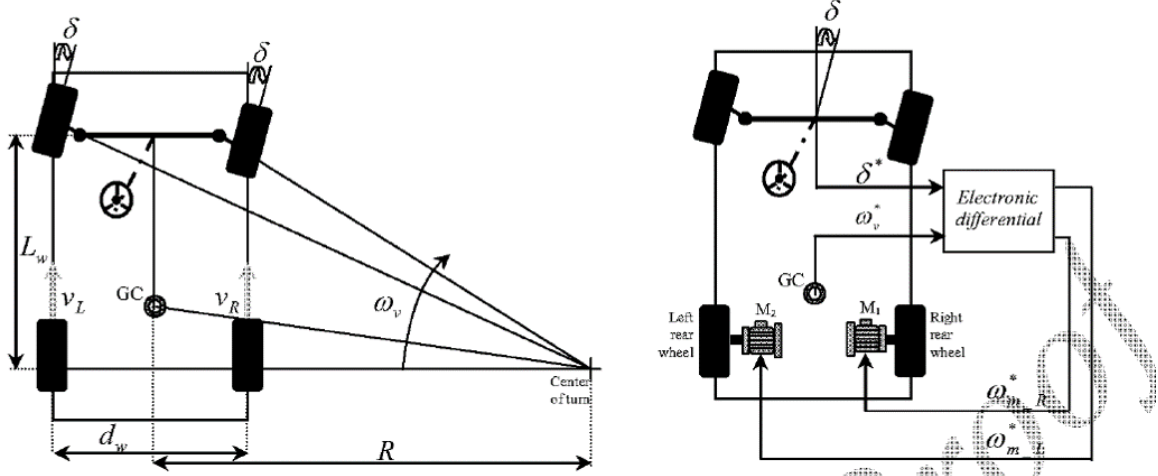

Figure 6. Vehicle structure in curve.
Accordance to Figure 6, the linear speed of each wheel drive is expressed as a function of the vehicle speed and the radius of curve, by equations (1) and (2)
When the vehicle arrives at the beginning of a curve, the driver applies a steering angle on the wheels. The electronic differential however acts immediately on the two motors reducing the speed of the inner wheel, and increases the speed of the outer wheel, Figure 6. The driving wheel angular speeds are: